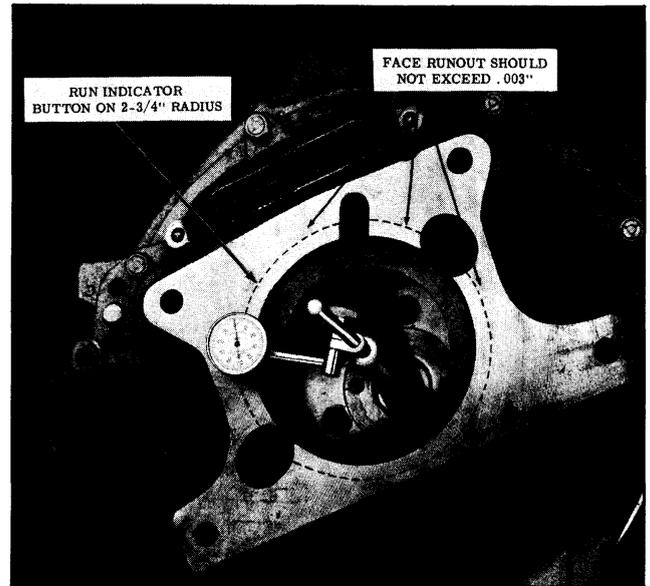

Fig. 8-49 Checking Housing Face Runout
3. Install pilot shaft and mount dial indicator as shown in Fig. 8-49.